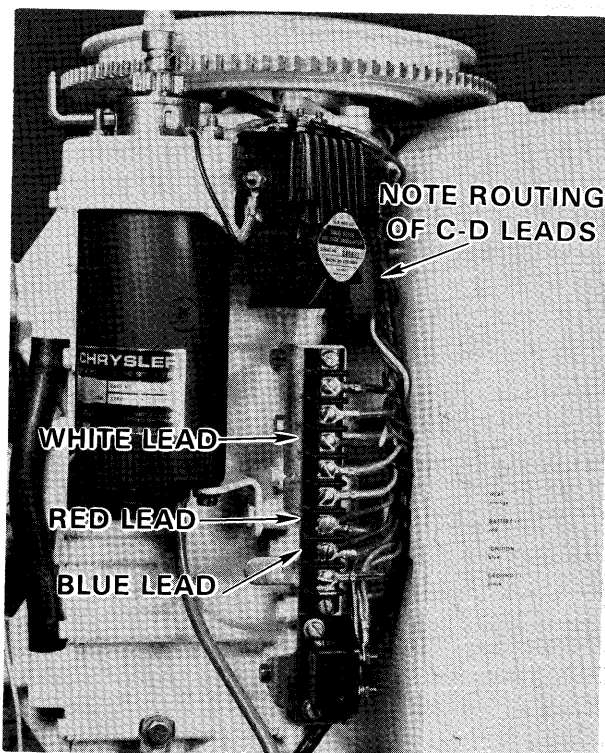

Figure 5C—Connecting C-D Leads To Terminal Block
- H. Route remaining lead wires (red, white, blue) up and over power head, under flywheel and down to terminal block. Connect leads to terminal block as specified on decal on exhaust port cover. (See figure 5C).